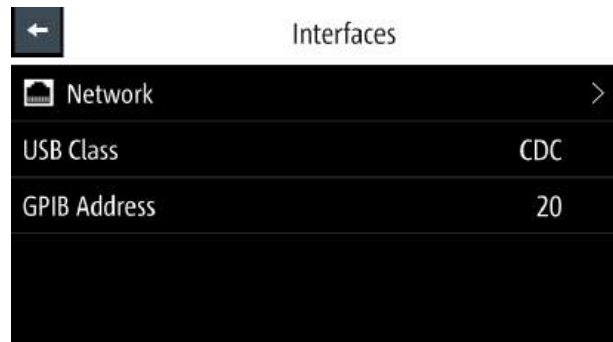

Figure 8-2: Interfaces dialog
- ▶ Select "Network" from Figure 8-2.